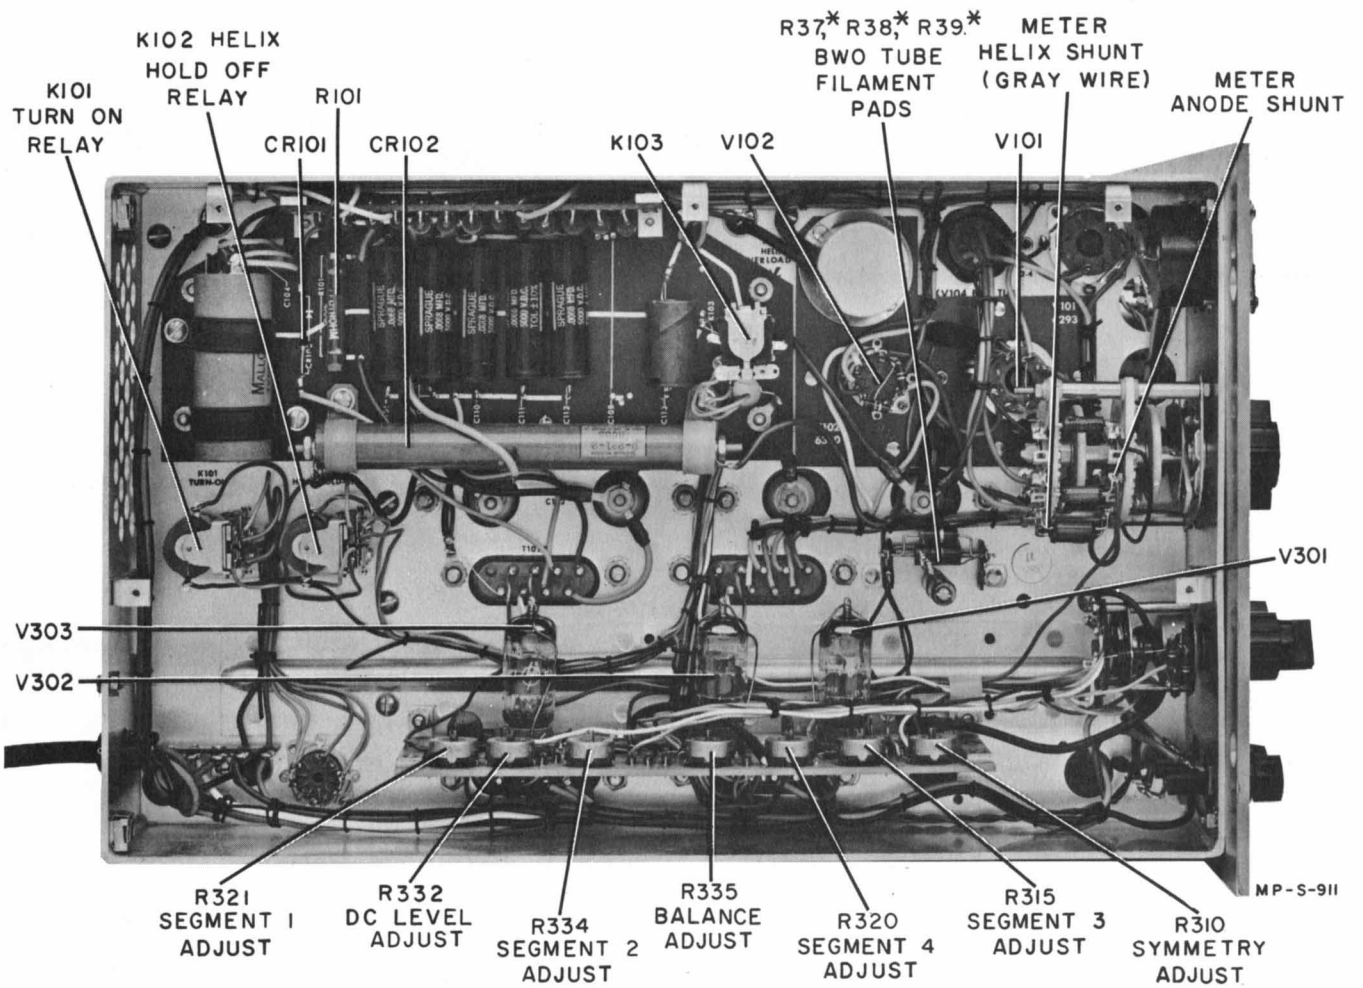

Figure 4-16. Model 683C Left Side View
- a. With 683C setup as shown in figure 4-14, connect a test probe (not shown) from the anode meter shunt of the bwo (see figure 4-16) to oscilloscope channel B.
(1) CATHODE CURRENT set to value and at frequency recorded in step 1k.
(2) SWEEP SELECTOR to RECUR.
Check filament voltage for V104 by placing an ac vtvm across parallel combination of R37, R38, R39 (see figure 4-16, left side view); no 6.3 volts ac, replace R36.